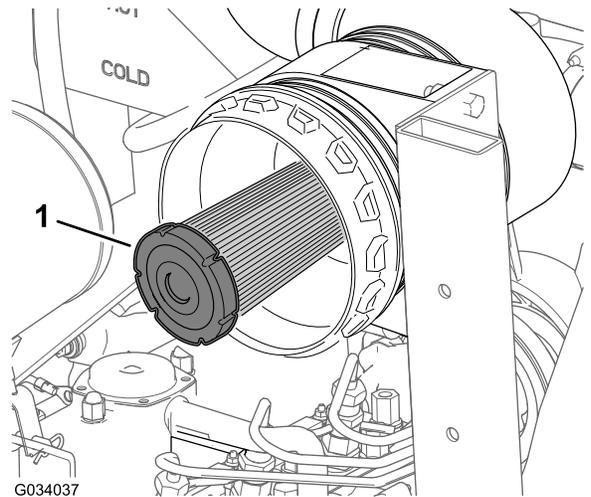

Figure 47
2. Check the air-cleaner safety filter for dust and debris (Figure 47).
Important: Never attempt to clean the safety filter (Figure 47). Replace the safety filter after every 3 primary filter services.